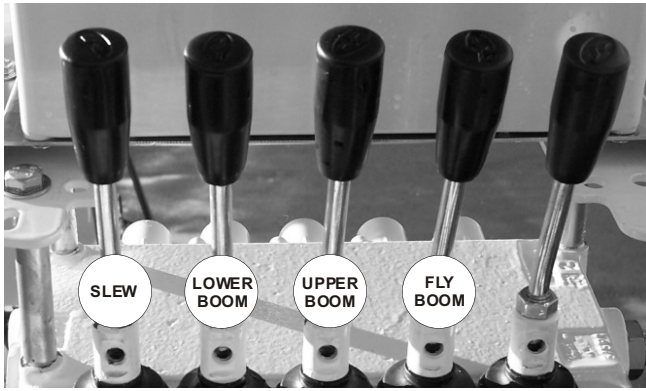

Figure 11.8 - Platform Control Levers
3. To lower the lower boom operate the lower boom valve lever (see Figure 11.8).
4. To retract the fly boom operate the fly boom valve lever (see Figure 11.8).
5. To slew while lowering operate the slew valve lever (see Figure 11.8).